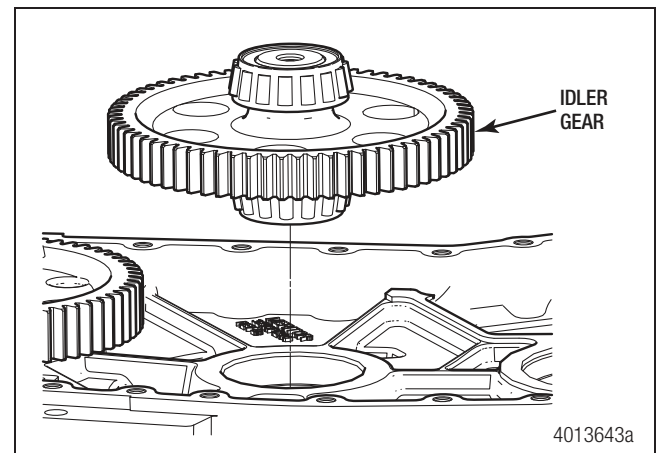

Figure 4.18
21. Remove the idler gear shaft from the front case half. Figure 4.18.